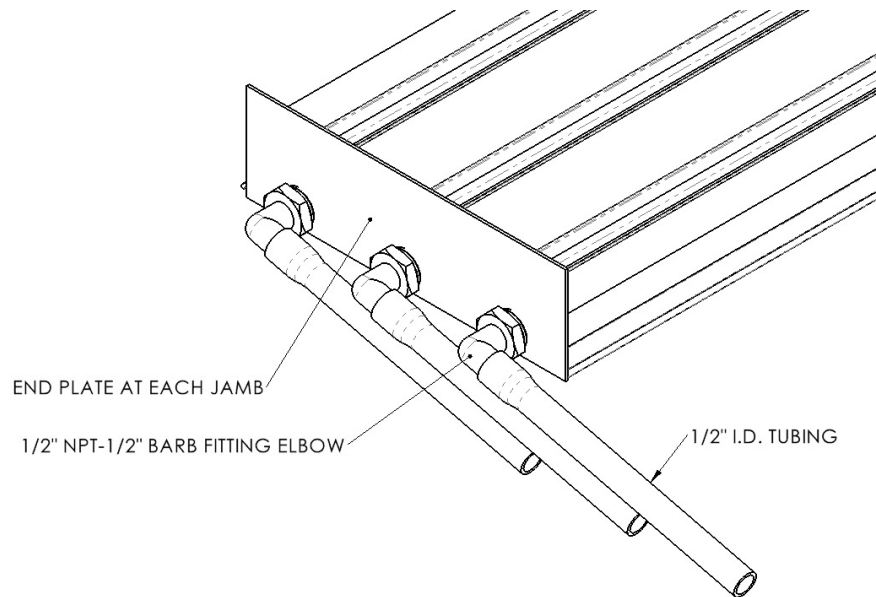

Figure 5
- Side Drain Fitting Sill (See Figure 5)
Screw the 1/2" NPT pipe to 1/2" hose barb fittings using tread sealant or Teflon tape to the ends of each track. Push fully the 1/2" minimum inside diameter hoses onto the barbed fittings and route to an appropriate drainage location, ensuring that the hoses have a continuous downward slope of at least 1/4" per foot. (See Figure 5). Proceed to step 10.